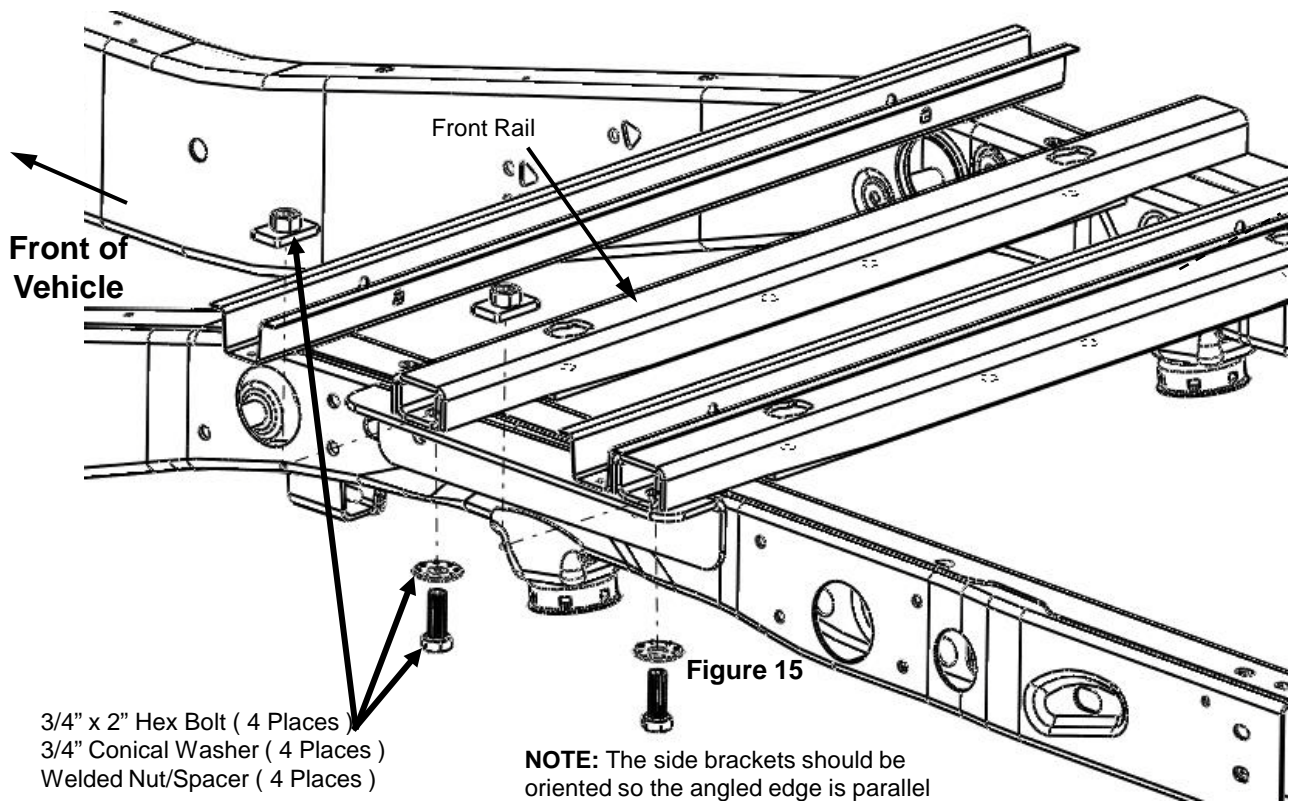

Figure 15
- Loosely attach frame brackets to rails using 3/4" X 2" hex bolts, 3/4" conical washers, and welded nut/spacer hardware. (Figures 15 & 16).